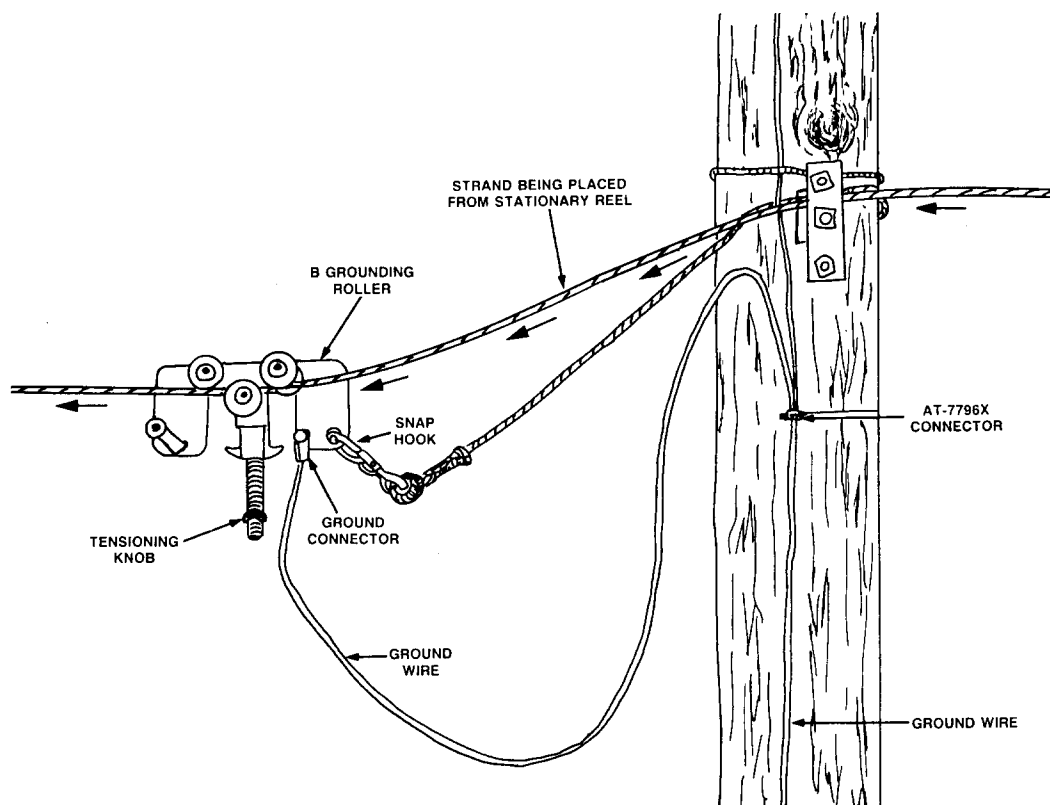

Figure 4 - B Grounding Roller Installed
- (c) Attach the other end of the number 6 ground wire to a low-impedance ground. A connection between a B grounding roller and a vertical ground conductor as illustrated in Figure 4.
- (c) Insert the strand open wire or winch line between the rollers and release the knob. Figure 4 shows the completed installation.